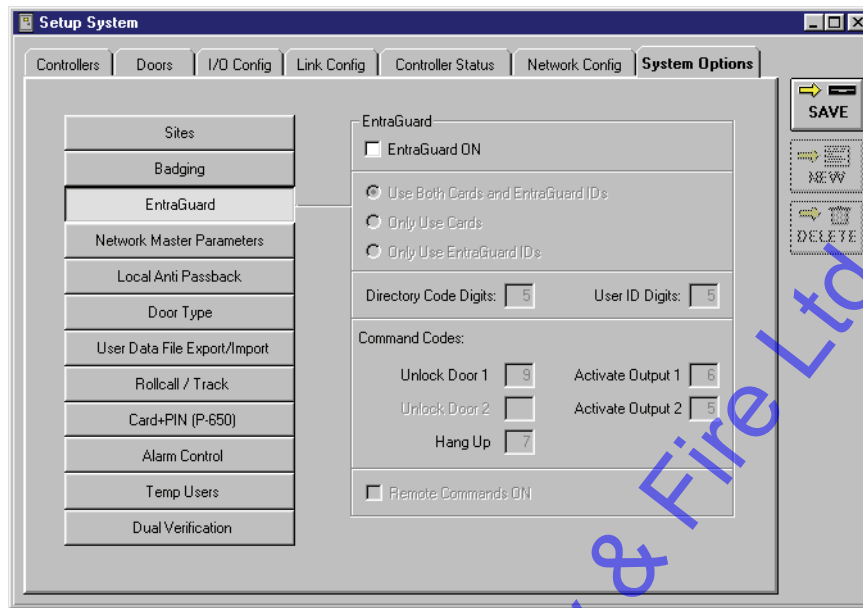

Figure 10-3: System Options Tab - EntraGuard Disabled
3. Click the  button. All the EntraGuard related database fields are now disabled (see Figure 10-3).